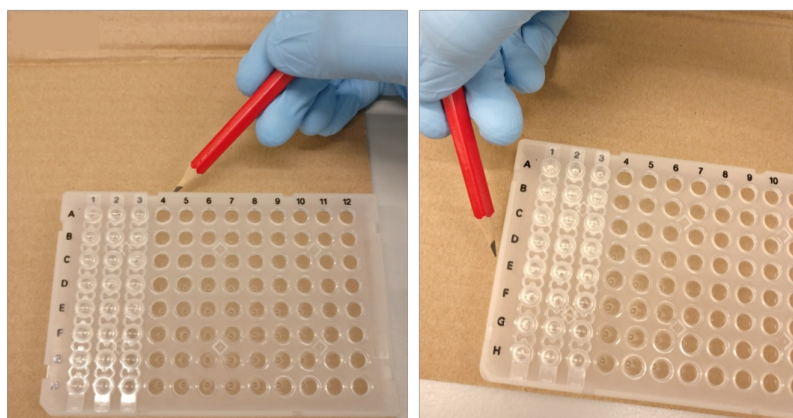

Figure 8a
- 8 Place the sealed plate on a piece of flat sheet cardboard. Using a pencil, trace the outline of the 96-plate (Fig. 8a).